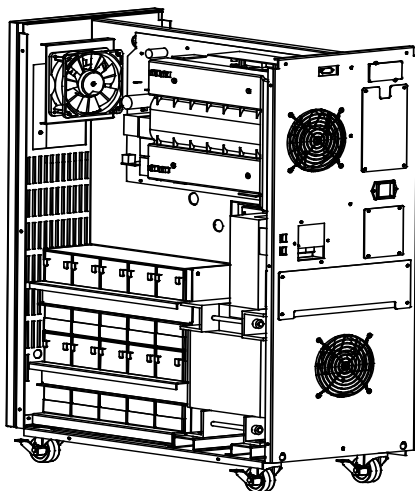

Figure 3.3
STEP 3: Done, as shown in Figure 3.3.